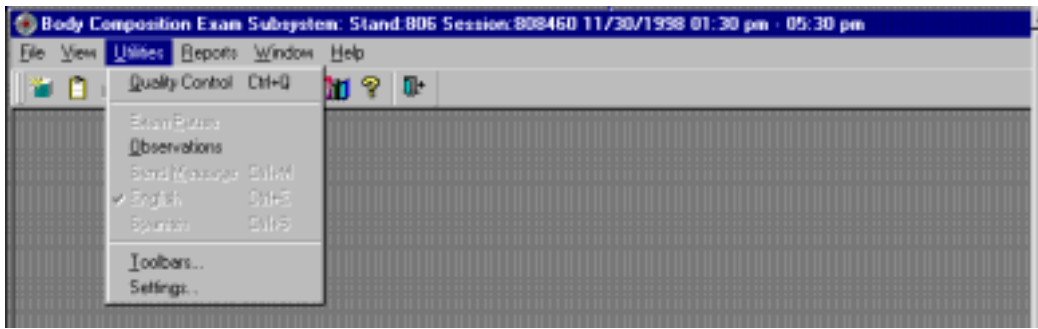

Figure 6-17. Utilities menu to select quality control
- When you want to complete the QC checks, select ‘Utilities.’ Then select ‘Quality Control’ from the menu. See Figure 6-17.